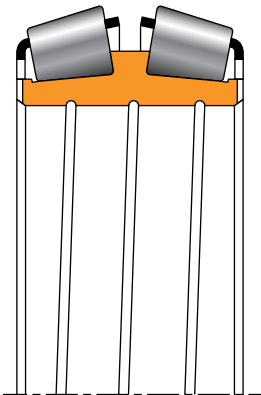

Fig. 69. Spiral groove in bearing bore.
1. Spiral bore grooves in double cone bore (TQOGW): Spiral grooves in the cone bores (fig. 69) help to retain and distribute lubricant between the neck and inner ring. However, Timken suggests that the contact pressure between the roll neck and cone bore be less than 15 MPa (2175 psi) to minimize the risk of